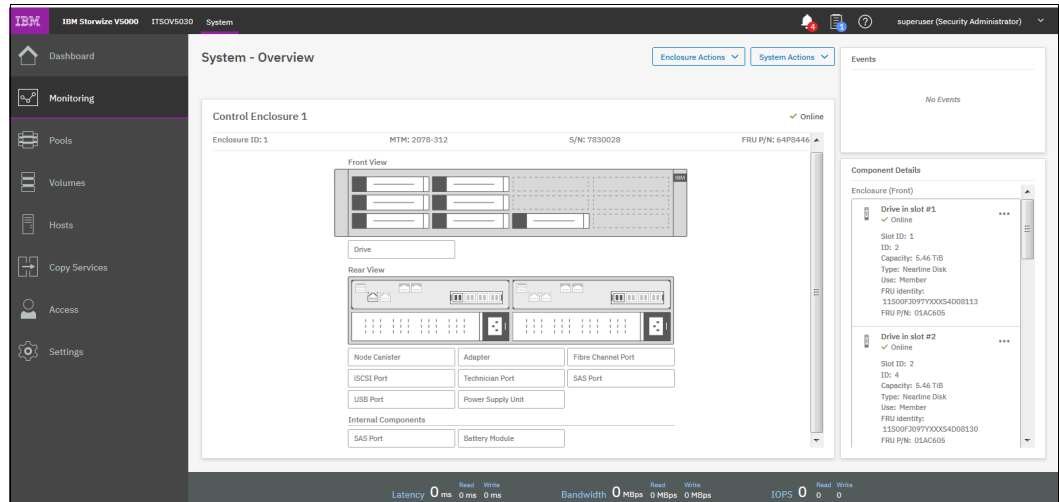

Figure 12-131 System Overview
1. Browse to **Monitoring** → **System** as shown in Figure 12-131.